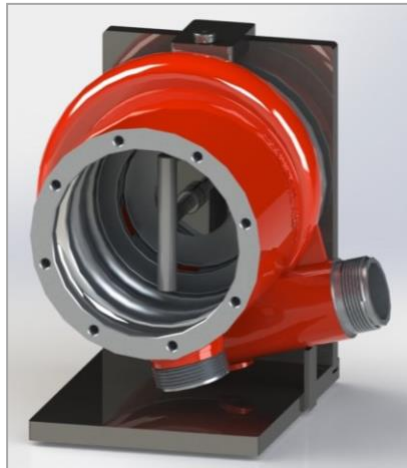

Figure 6: Slide in Drilling Guide and secure pump body by tightening T-bolt
8. Tighten the T-bolt to secure the pump body in place. Slide in the Drilling Guide. See Figure 6.